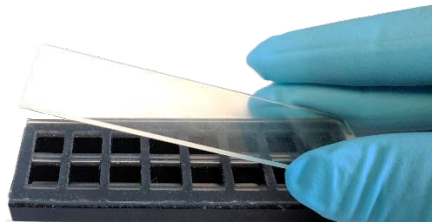

Figure 2
2. Place the microscope slide (array side down) over the silicone gasket, aligning the edges of the slide with the edges of the upper structure as shown in Figure 2.